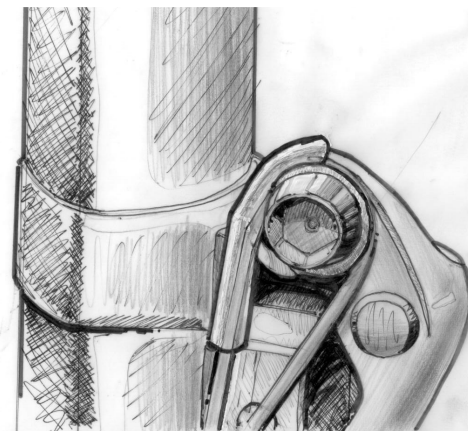

Fig. 5 — Front derailleur setup with protective liner
8. Run Cordz under anchor bolt and washer following the same entry path of original cable so Cordz follows hollow of Grommet Clasp. If your bike has a protruding edge on the anchor bolt of the front derailleur, cut and use small piece of included liner (fig. 5) **Wrap Cordz 360 degrees around anchor bolt.** Tighten bolt enough to hold Cordz but no more at this time.